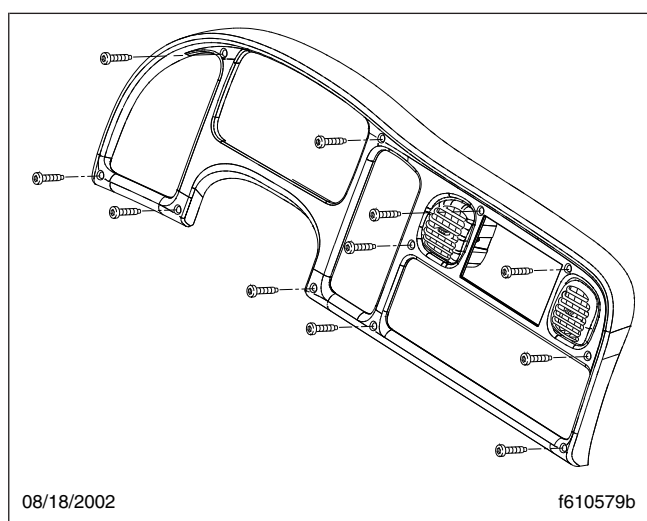

Fig. 2, Dash Trim Piece
7. Remove the dash trim piece by removing the eleven screws that secure it to the dash. All fasteners for this procedure are 10–16 Torx® capscrews. See **Fig. 2**.